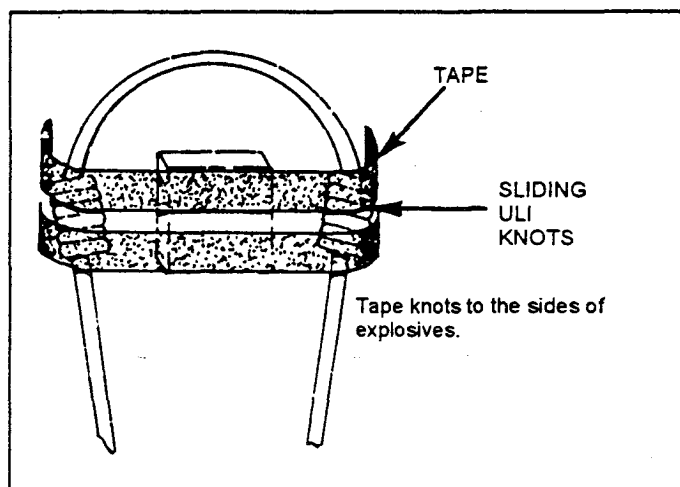

Figure M-3. Completed general-purpose charge.
(2) Cut a block of C4 explosive to a 2-inch square. Tape one uli knot to each side of the C4 block, leaving the length of detonation cord free to slide through the knots (Figure M-3).